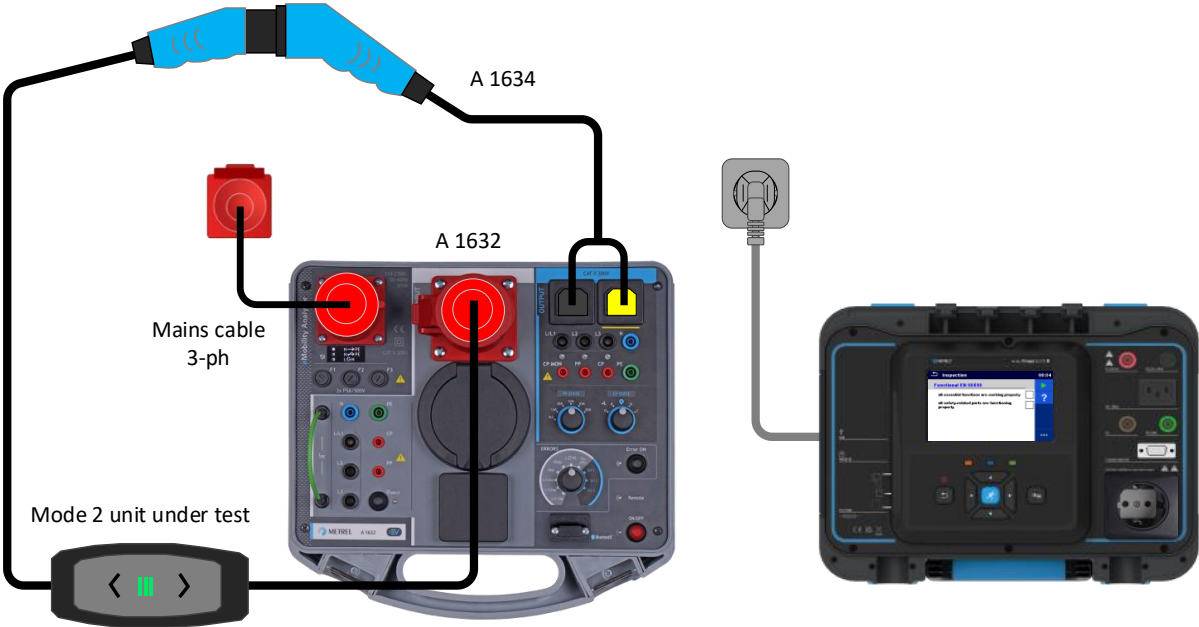

Figure 4_Mode 2 cable connection
- Connect the charging cable to the eMobility Analyser (A 1632) (see Figure 4_Mode 2 cable connection).